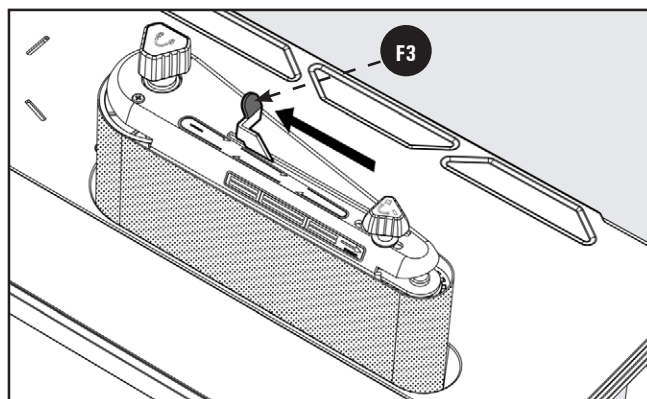

FIGURE 10
1. Slide the tension lever **F3** to the left to release the belt tension. See Figure 10.